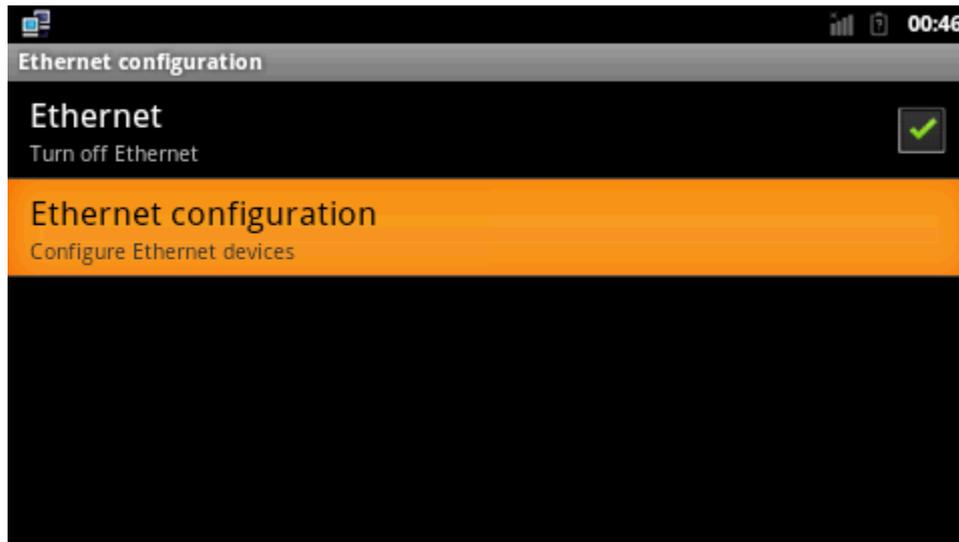

Figure 5-27
(3) Configure Ethernet. Refer to figure 5-27: